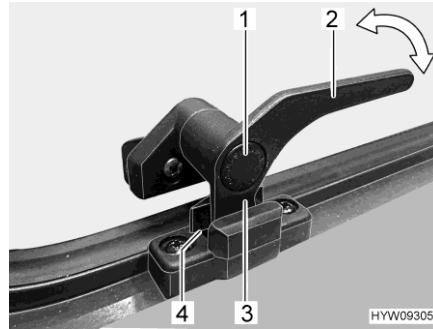

Fig. 63 Catch lever ("continuous ventilation" position)
- "Continuous ventilation" (Fig. 63)
- Press the safety knob (Fig. 63,1) and keep it pressed.
- Turn the catch lever (Fig. 63,3) a quarter turn towards the centre of the window.
- Return the catch lever to its initial position. Move the locking catch (Fig. 63,3) on the catch lever into the recess of the window catch (Fig. 63,4).
- Release the safety knob (Fig. 63,1).